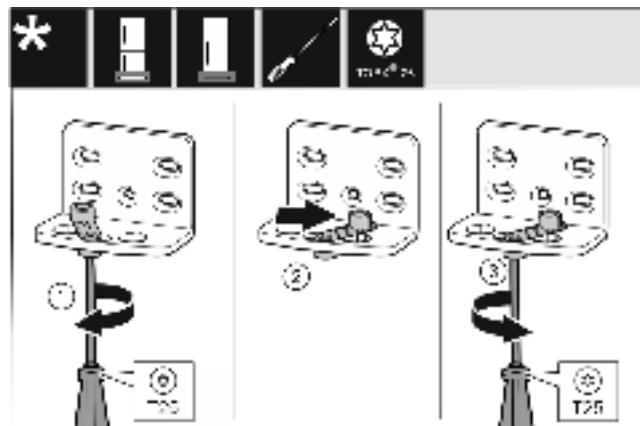

Fig. 14
- Loosen the screw using a T25 screwdriver. *Fig. 14 (1)*
- Lift the door closing aid and turn it 90° to the right in the hole. *Fig. 14 (2)*
- Tighten the screw using the T25 screwdriver. *Fig. 14 (3)*